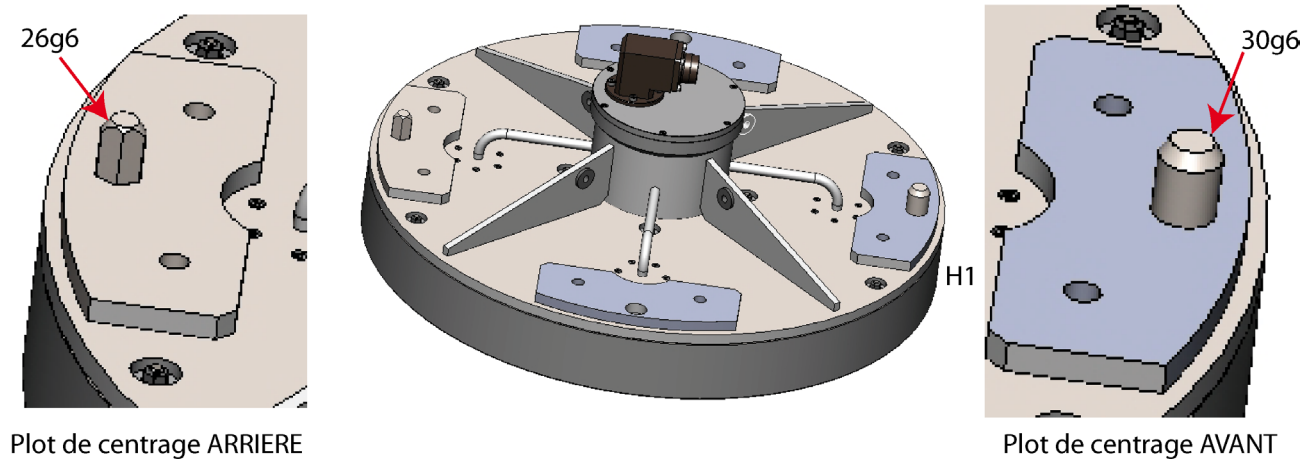

Figure 9 – Front and rear centering pins of the flush antenna
- Two centering 38 mm pins (30g6 front and 26g6 rear) for the flush array (see Figure 9)